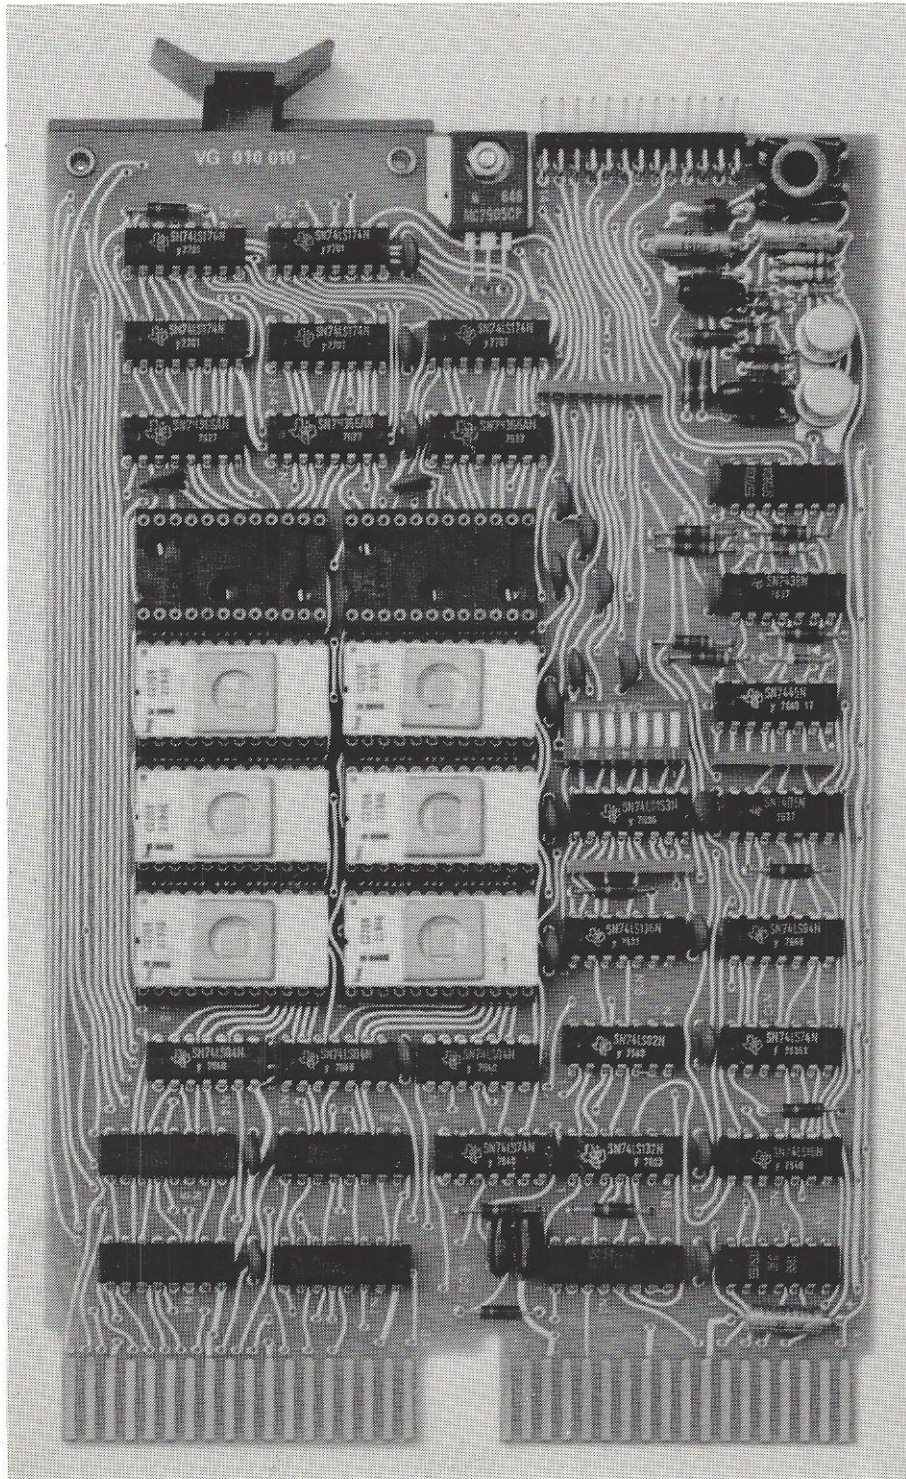

Figure 1-1 VMell-A 4K UV EPROM Module
The VMell-A (Figure 1-1) is an LSI-11 memory option that contains eight sockets in which ultra-violet (UV) erasable, programmable read-only memory (EPROM) integrated circuits can be installed. This manual contains user information required for installing the VMell-A 4K UV EPROM module, using 2708-type 1K by 8 UV EPROMs and operation of the VMP11-A programmer option.